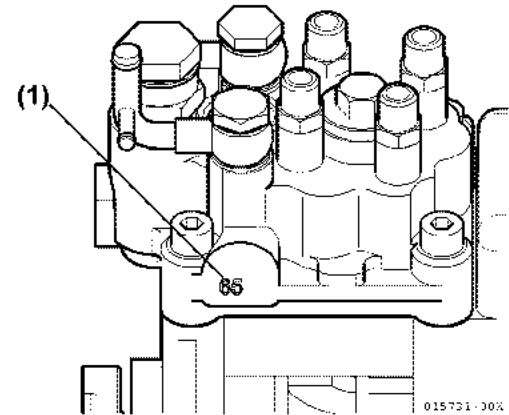

**Figure 6-37**
Note: The intake manifold and fuel injection pump insulator (**Figure 6-37, (2)**) may need to be removed to access the inner fuel injection pump (**Figure 6-37, (1)**) retaining nuts.
23. Remove the fuel injection pump (**Figure 6-37, (1)**). For purposes of future injection timing purposes, record the fuel injection pump timing index number located on the boss on the engine side (back) of the fuel injection pump (**Figure 6-38, (1)**). **NOTICE:** Do not rotate the crankshaft while the injection pump is removed.